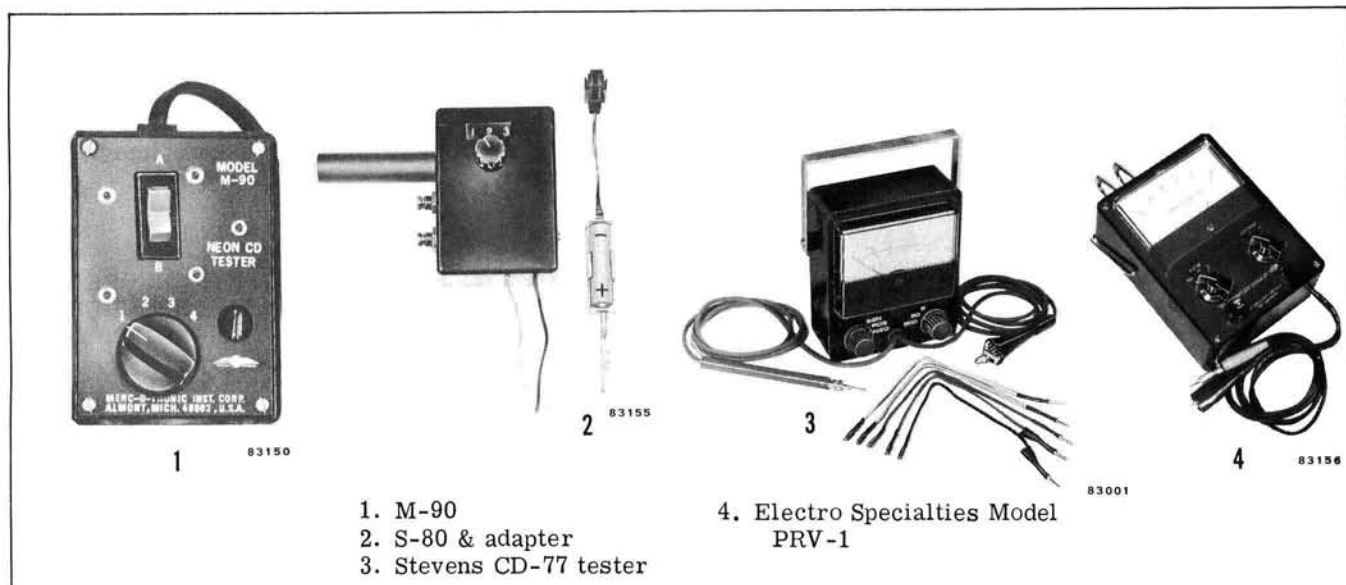

Figure 4-6. Ignition Testers
- Neon test light - Model M-80 or S-80 with 1-1/2 volt battery adapter, or Model M-90 (no adapter required), or Stevens or Electro Specialties C.D. Voltmeter Tester. See Figure 4-6.